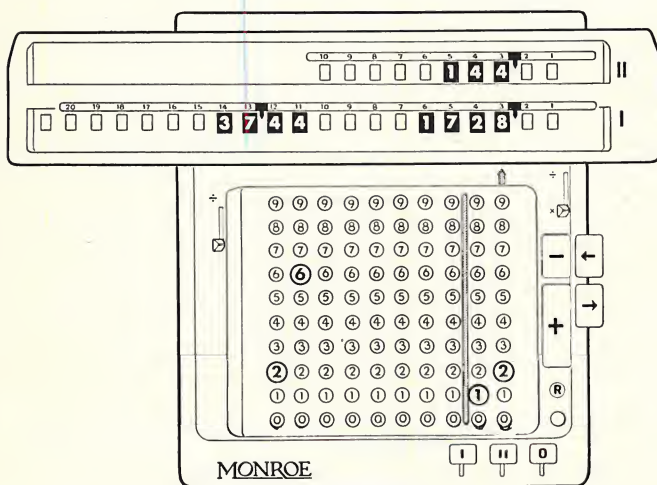

Figure 27
Step 4—At the completion of the build-up division, all factors of the problem show in the Monroe as illustrated in Figure 27: lower dials at 2nd decimal, dividend, 1728; upper dials, 144, number of dozens in 1728; lower dials at 12th decimal, the result, 37.44.